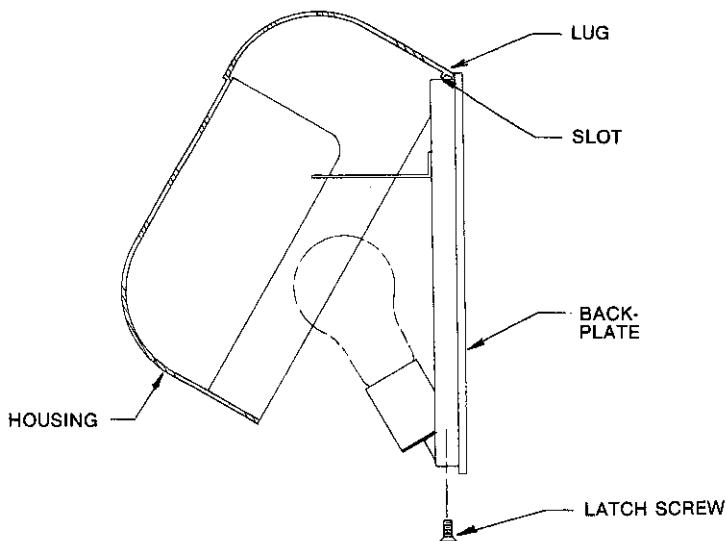

FIG. 2
1. Disassemble fixture by removing LATCH SCREW visible at bottom. HOUSING "hinges" up for removal. See Fig. 2.
5. Mount diffuser HOUSING to FIXTURE BODY by tilting HOUSING to engage LUG into SLOT of FIXTURE BODY. Swing HOUSING into position, seating against GASKET. See Fig. 2.
6. Press HOUSING into alignment against GASKET and secure with LATCH SCREW. See Fig. 2. **NOTE:** Mount with LATCH SCREW.